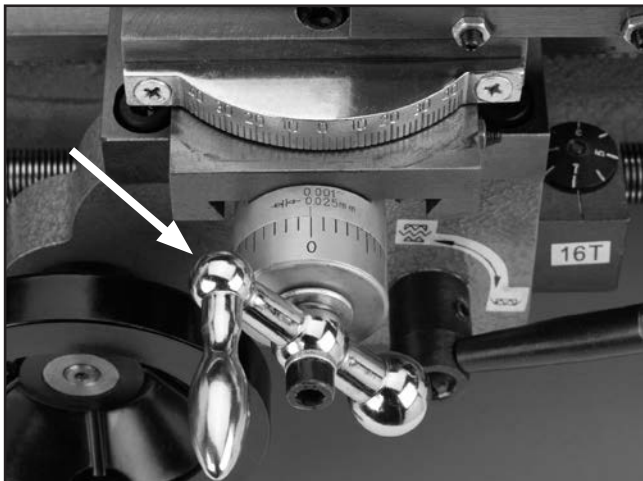

Figure 22. Cross slide handle and scale.
2. Hold the handwheel still and turn the scale so the "0" mark lines up with the "0.000" mark on the cross slide, as shown in **Figure 22**. As long as you avoid backlash by continuing to move the cross slide in the same direction, the scale on the handwheel will be accurate.